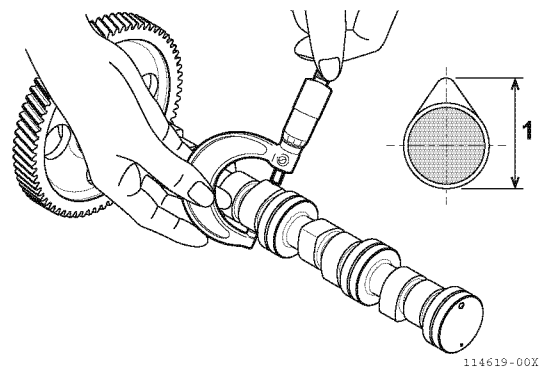

Figure 6-86
3. Measure the height of each lobe (1, **Figure 6-86**). See *Camshaft* on page 6-7 for specifications.